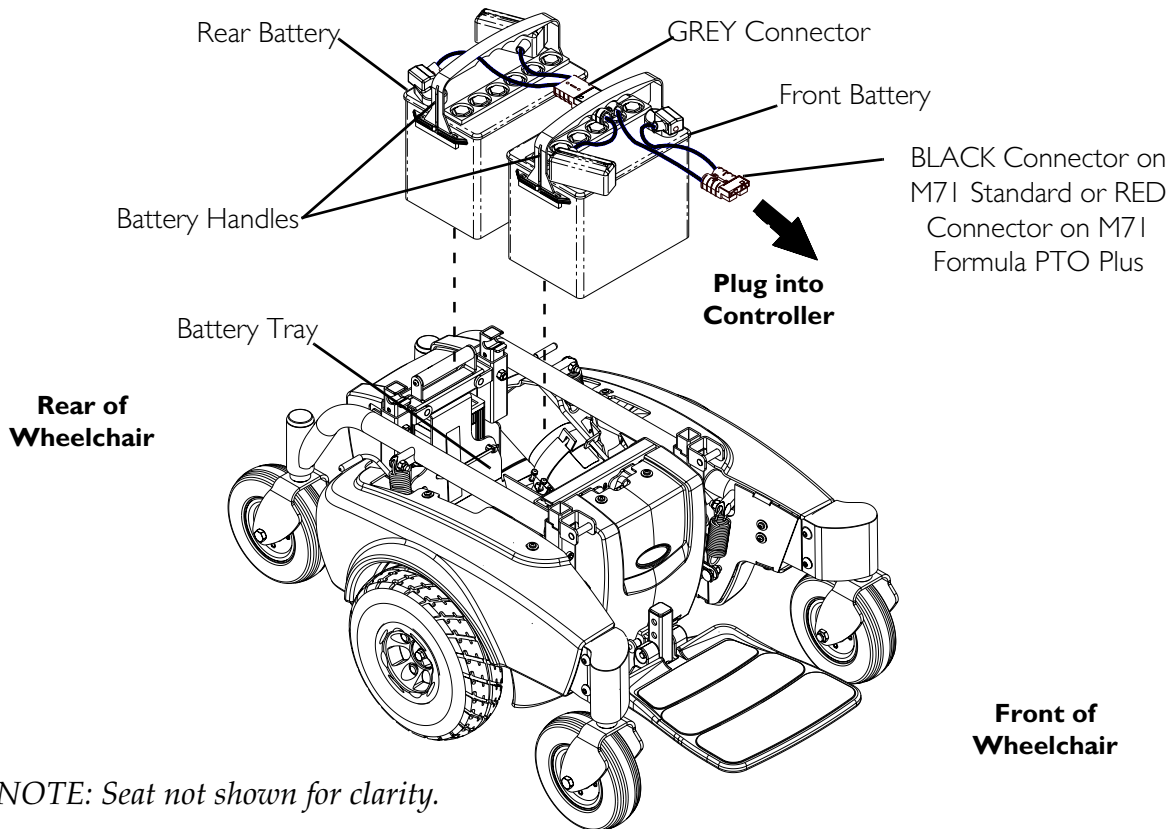

FIGURE 18.2 Removing/Installing Batteries from/into Battery Tray
NOTE: For this procedure, refer to FIGURE 18.2.
2. Position front battery in rear of battery tray and slide forward into position (FIGURE 18.2).
3. Position rear battery in rear of battery tray (FIGURE 18.2).